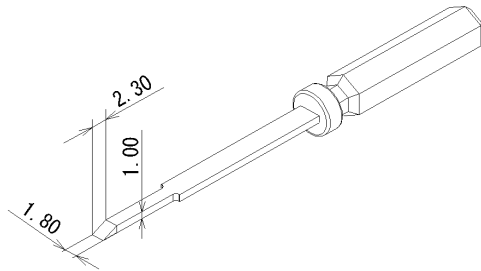

Figure-7. Removal tool for front holder /cover
- 1) Insert the tool (See Figure-7) into a opening for tool as shown in Figure-9. Push the tool until it hits the deepest point of the opening.
- 2) Tilt the tool to the direction of arrow ① to release a cover lock.
- 3) Remove a cover in the direction of arrow ②.
Insert a front holder's removal tool (See Figure-7 on page 14) into "A" area.